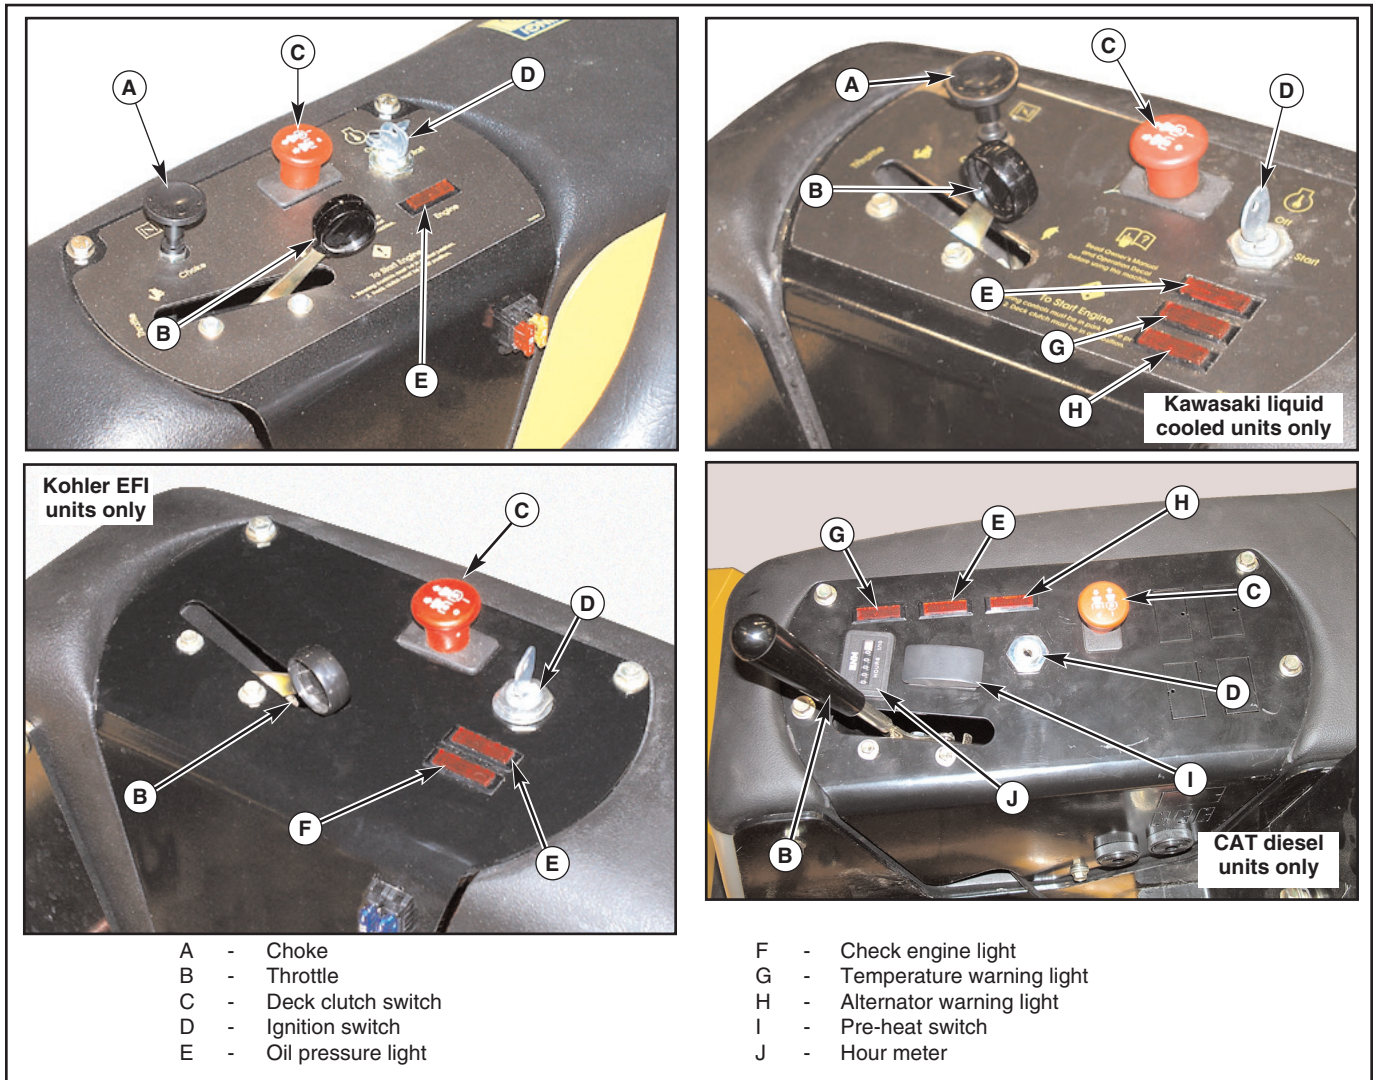

Figure 3-1
- A. Choke control (Fig. 3-1)** – a cable is linked to manually operate the engine choke. When the lever is in the down position, the choke is in the off (run) position. When the lever is pulled up, the choke is in the on (start) position. **Do not** operate the machine in the on (start) position. **NOTE:** The choke control is not used on Models 927053 & 927061.
- B. Throttle control (Fig. 3-1)** — a cable is linked to engine throttle for controlling engine speed. Move lever forward to increase engine rpm, move lever rearward to decrease engine rpm.
- C. Deck clutch switch (Fig. 3-1)** — this switch engages the deck. Pull the switch up to engage and push switch down to disengage the clutch.
- D. Ignition switch (Fig. 3-1)** – a three position switch: off, run, and start. With key inserted, rotate it clockwise to START position; release key when engine starts, and switch will automatically return to the RUN position.
- E. Oil pressure light and alarm (Fig. 3-1)** — this light comes on
- F. Check engine light (Fig. 3-1)** — refer to Kohler engine owner's manual for details.
- G. Temperature warning light and alarm (Fig. 3-1)** — this light will come on when the engine coolant temperature reaches an unsafe level during operation. If light comes on, shut down the machine as soon as possible. Never risk continued operation when light remains on; high temperatures can severely damage the engine. Never risk continued operation when light remains on: high temperatures can severely damage the engine.
- H. Alternator warning light (Fig. 3-1)** — this light comes on when the ignition switch is placed in the RUN position and stays lit until the engine is running and the battery is being charged. If light comes on during operation, shut engine off immediately, locate and correct the problem.
- I. Pre-heat switch (Fig. 3-1)** — this is an intermittent rocker switch position. Turn ignition key to run, depress and hold pre-heat switch six (6) seconds to start engine.